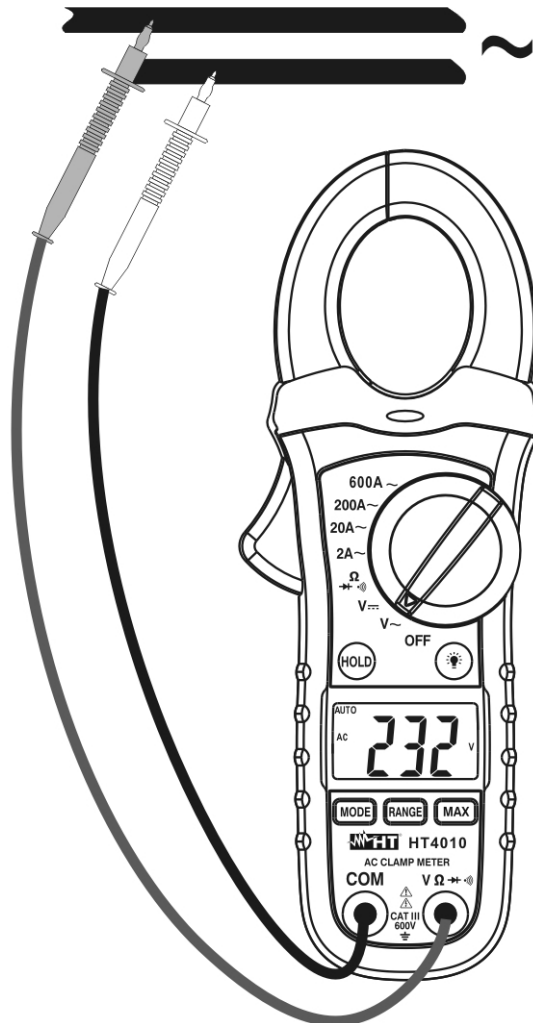

Fig. 3: Taking AC voltage measurement
4. Insert the red test lead plug into $V\Omega$ jack and the black test lead plug into **COM** jack (see Fig. 3)
5. Connect the two long ends of test leads to the desired circuit (see Fig. 3) then reading will be displayed